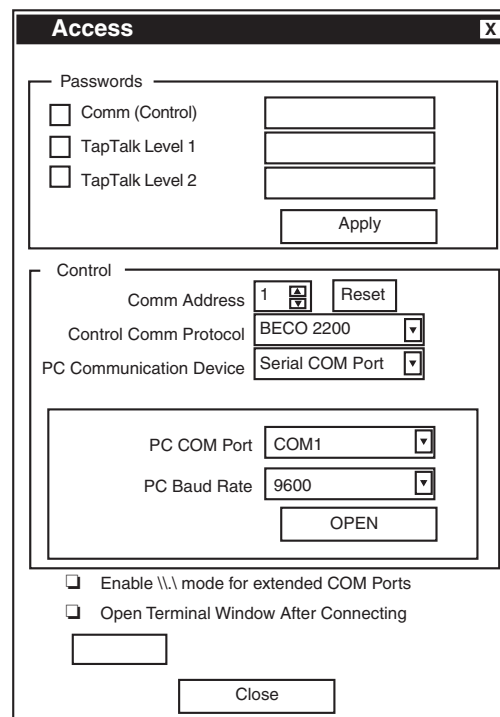

Figure 9-8 Communication Access (Serial) Dialog
1. Start the TapTalk program, TapTalk will display the **Communication Access** (Serial) dialog screen (Figure 9-8).
To address additional controls at the same location (Not applicable to Ethernet connections), the user must reset the control address from the Communication Access Screen (Figure 9-8). When RESET is selected, TapTalk will respond with a confirming dialog screen, shown below. As long as communication to the remote location is maintained, the user can switch between controls.